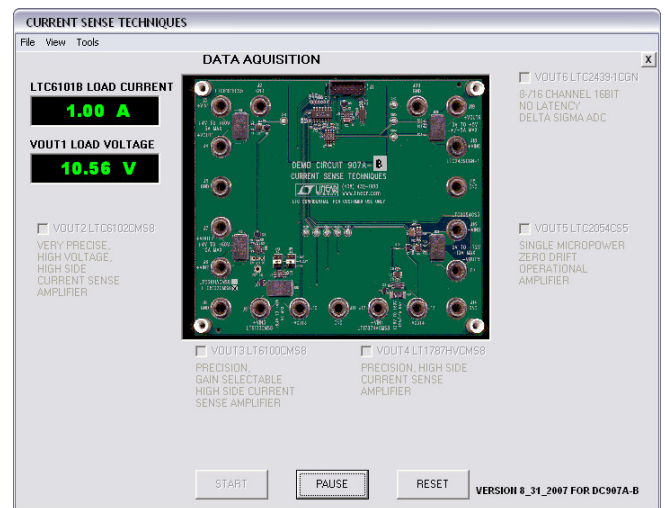

Figure 4. LTC6101B IsenseB.exe display (Current and Voltage at +VOUT1)
4. Mouse-click a check in the VOUT1 LTC6101BCS5 enable box and then mouse-click the START box. The window will then show, as in Figure 4, a continuously updated current and voltage as furnished to the load connections. To suspend updating, mouse-click the PAUSE box. The RESET box returns the program to the initial setup state so that other demo sub-circuits can be activated, etc. A red readout represents an out-of-range result or condition that may be beyond safe limits. A yellow readout is acceptable, but indicates being near a limit. Green readouts are well within nominal conditions.